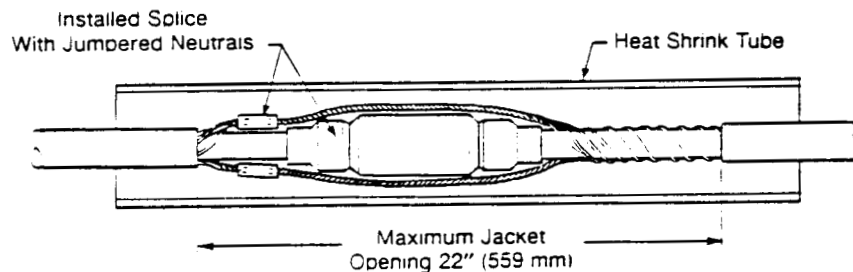

Figure 1
6. Center heat shrink sleeve over cable jacket opening. Figure 1.